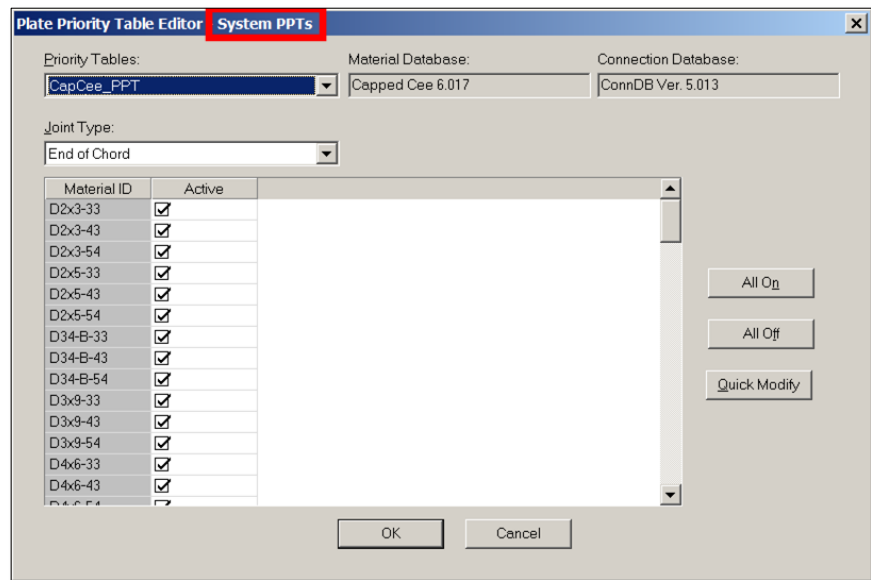

Figure 162: The *Plate Priority Table Editor* dialog box for *System PPTs*.
- From within the *System MPTs Editor* dialog box, click on the *Edit PPT* command button to open a *System PPT Editor* dialog box like the one pictured in Figure 162. The various parts of the *System PPT Editor* dialog box are described as follows: